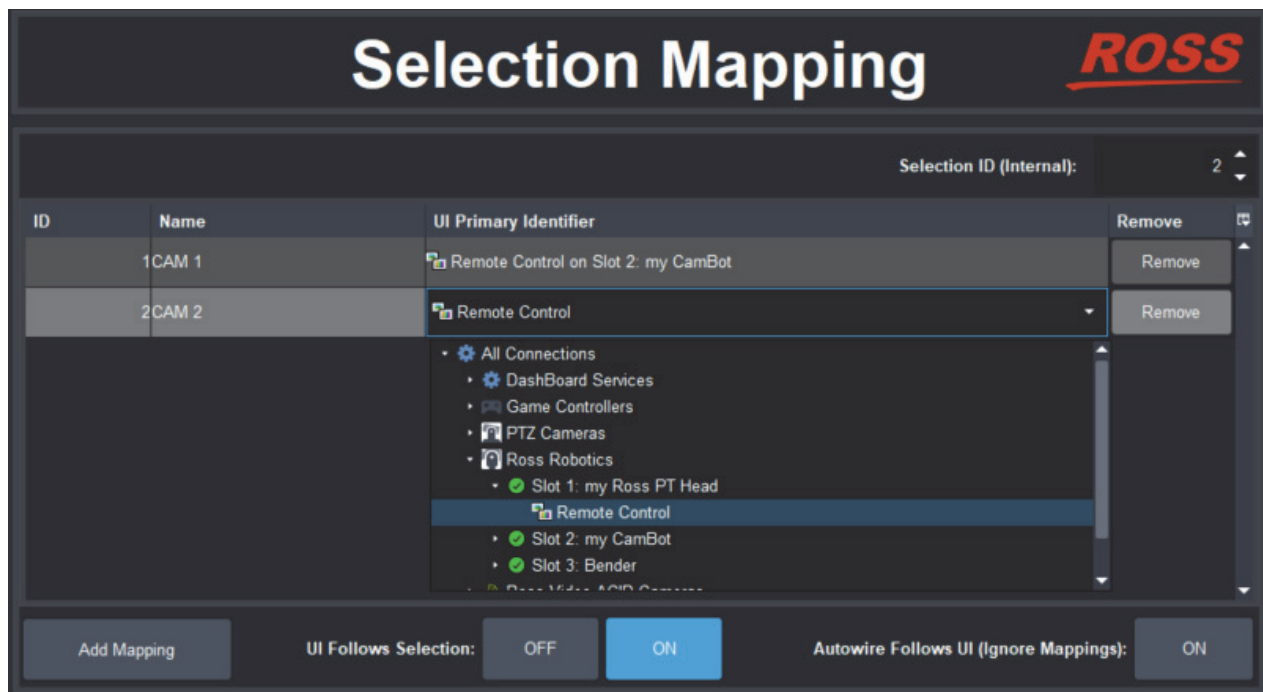

Figure 38 - Mapping Camera Selector buttons to Camera Systems
1. In the **Selection Mapping** interface (Figure 38), tap the **Add Mapping** button.